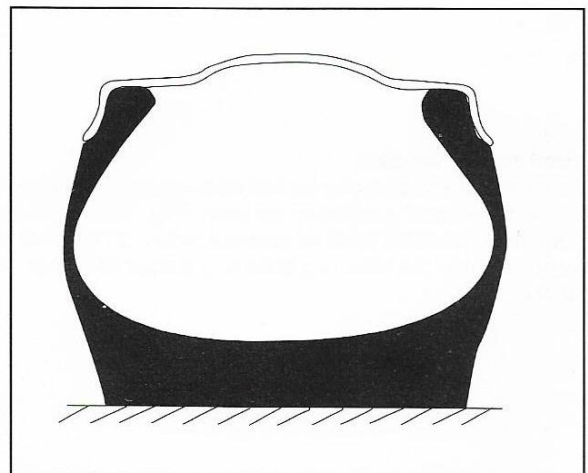

Fig. 111
- A correctly inflated radial tyre under full load should have a profile as shown in Fig. 111.